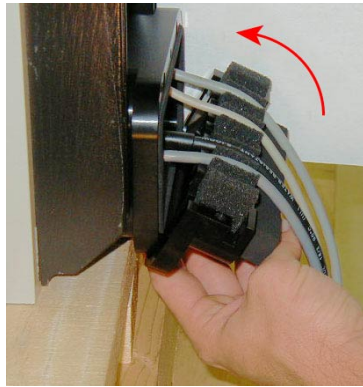

Figure 9-5. Installing Lower Flange
- a. Tilt the flange away from the robot as you install it—Figure 9-5.